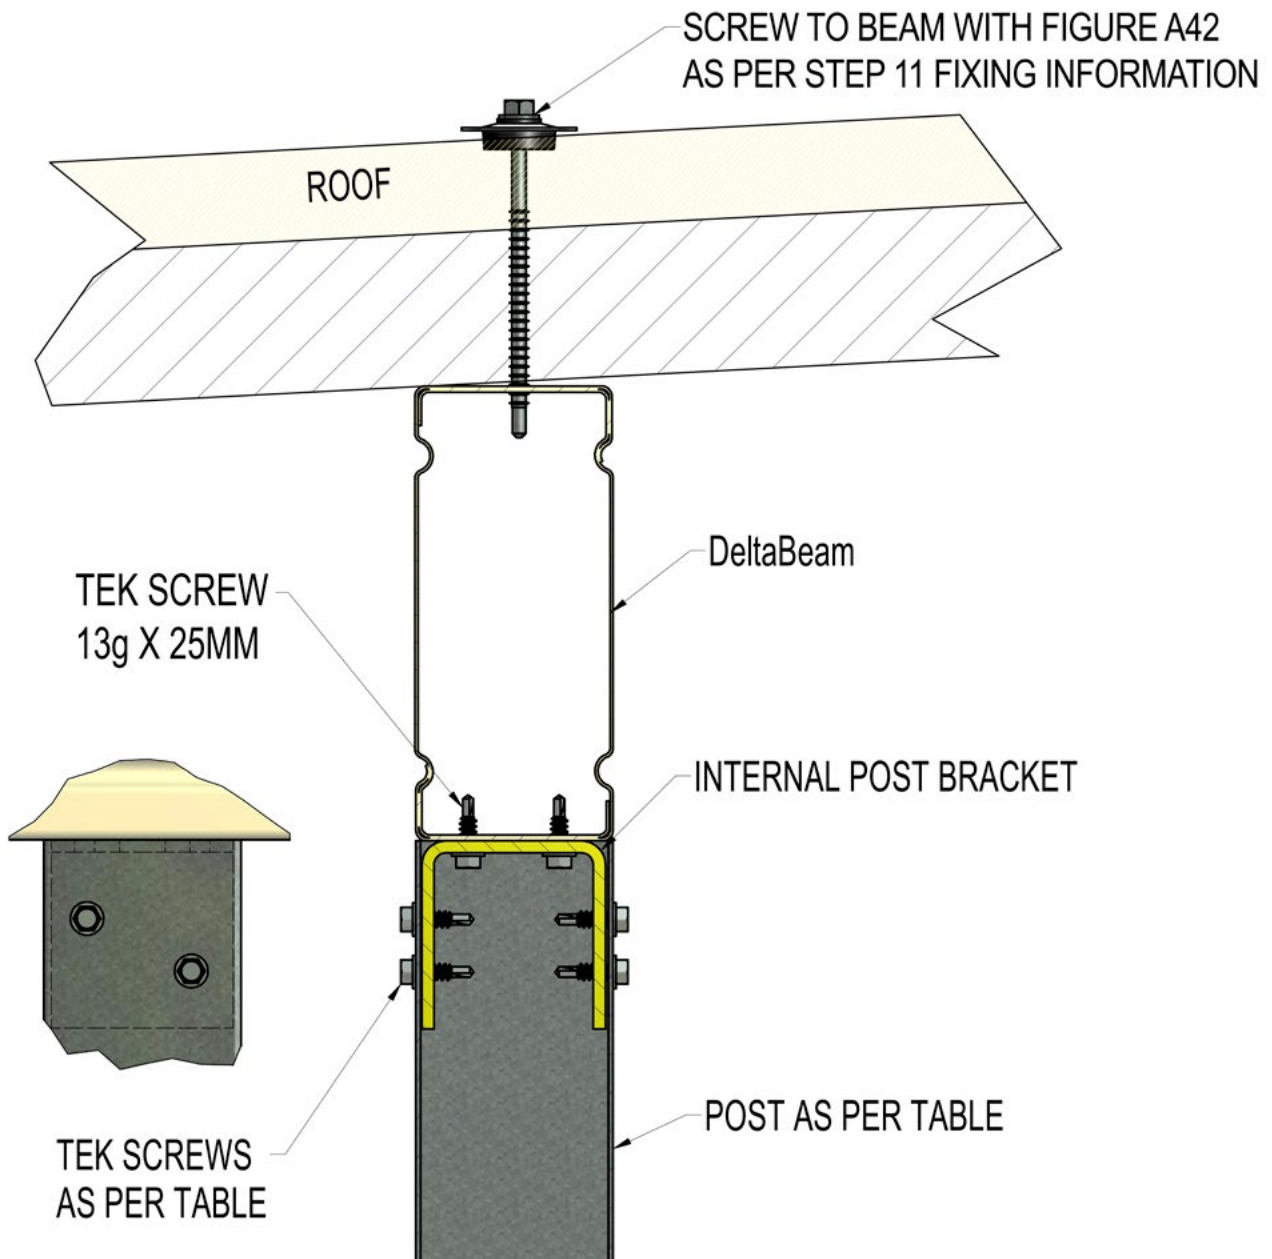

Figure A25
**Delta™ Steel or Aluminium Beam to Post (see Figure A25)**